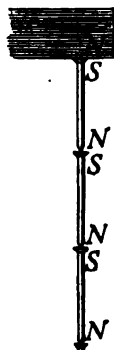

FIG. 175.—
**203. Magnetic Induction.**—Let the north-seeking pole of a bar magnet support an iron nail by its head. (See Fig. 175.) Test the point of the nail for polarity. See whether a second nail can be attached by its head to the point of the first. Test the polarity of the point of this nail. Find by trial how many nails can be suspended in succession from the magnet. Test in each case for polarity. Withdraw carefully the magnet from the first nail—the string of nails will fall apart. Repeat the test with a thickness of paper between the magnet and the first nail. Results similar to those secured at first will be found, though probably fewer nails will be supported. The presence of paper between the magnet and nails simply weakens the action. Test the action of the magnet upon the nail when there is between them a piece of glass, one's thumb, thin pieces of wood, copper, zinc, etc. *The magnetizing of a piece of iron or steel by a magnet near or touching it is called magnetic induction.* This action takes place through all substances except large bodies of iron or steel hence these substances are often used as *magnetic screens*. The pole of the new *induced magnet* adjacent to the bar magnet is just opposite to the pole used. Thus the N.-pole of the magnet used will produce a S.-pole at the near end of the nail and a N.-pole at the end farther away. (See Fig. 175.) On removing the magnet, the nails are found to retain a part of their induced magnetism.